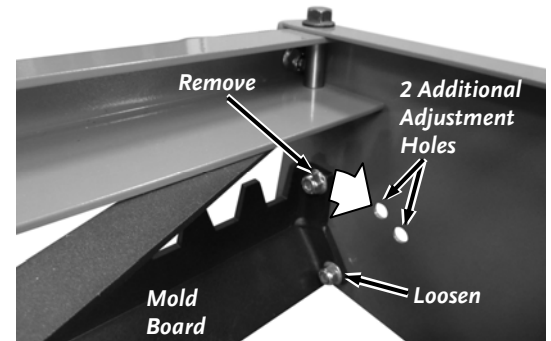

Figure 40
- Remove the top Bolt and Locknut on both ends of the Mold Board using two 9/16" Wrenches (**Figure 40**).